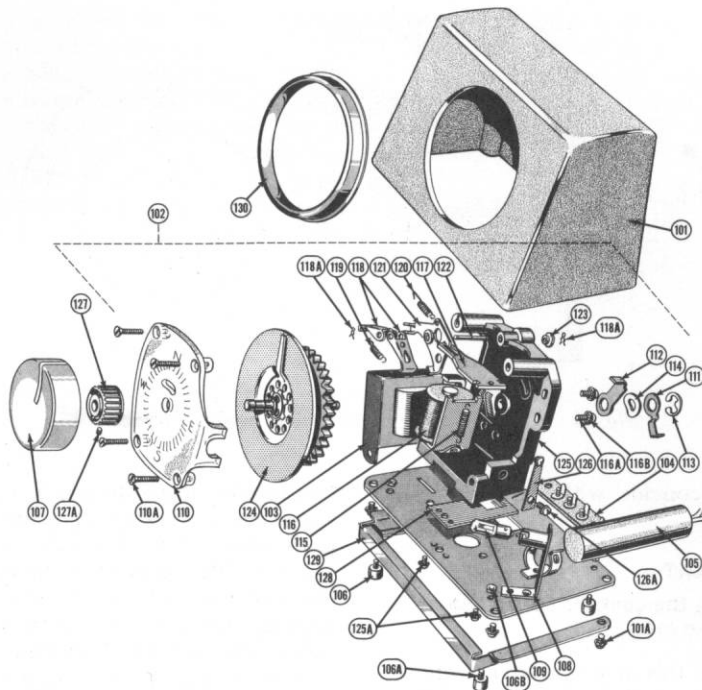

Fig. 17. Exploded View of Model U-83 Control Box.
1. Viewing from front, left pawl (Item #118) should clear slotted escapement disc by .020 inch with electromagnet in energized position. Adjust by bending electromagnet armature tip (Item #117). (See Figure 17.)
2. Right pawl (Item #118) should clear slotted escapement disc by .020 inch with electro-magnet in de-energized position. Adjust by bending tab on electromagnet assembly. (This tab also holds down the armature.) (See Figure 17.)